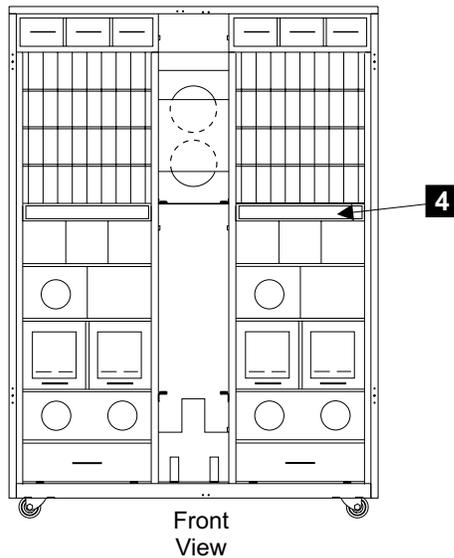

Figure 242. Accessing the Service Terminal Table (S008607m)
- ___ 2. Press the latches on the front service terminal table **4** [Figure 242] and pull the table out until it stops.